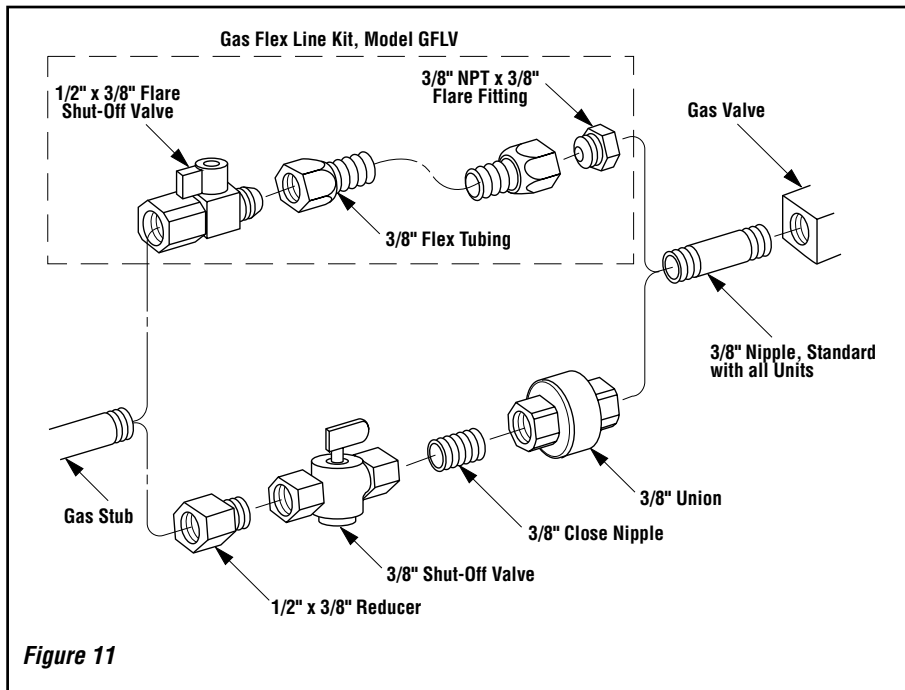

Figure 11
**Step 5. Connecting Gas Line** – Make gas line connections. All codes require a shut-off valve mounted in the supply line. Figure 11 illustrates two methods for connecting the gas supply. Installation methods and materials must be in compliance with local codes.